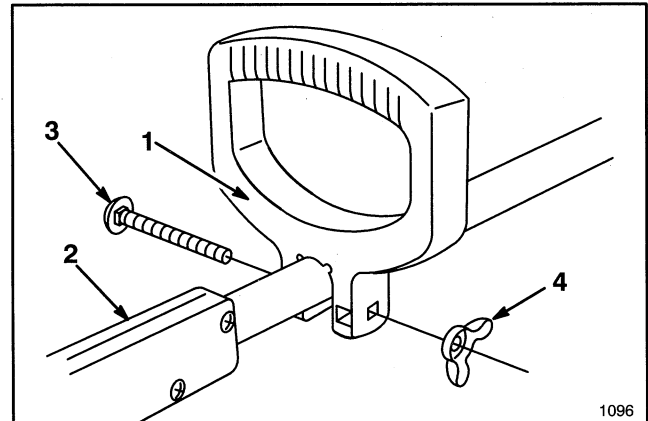

Figure 4
3. Press support handle onto tube with smooth side of support handle facing toward upper handle. Loosely secure support handle to tube with carriage bolt and wing nut (Fig. 4).